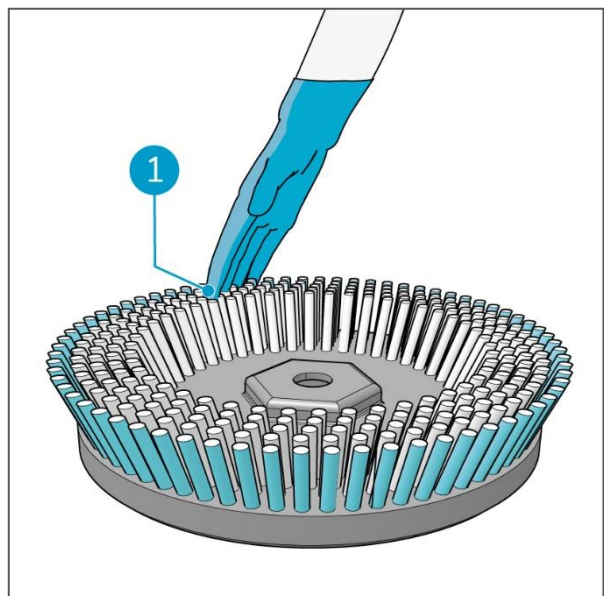

Figure 50
3. Carefully remove the debris from each disc brush by hand (Figure 50, pos 1).